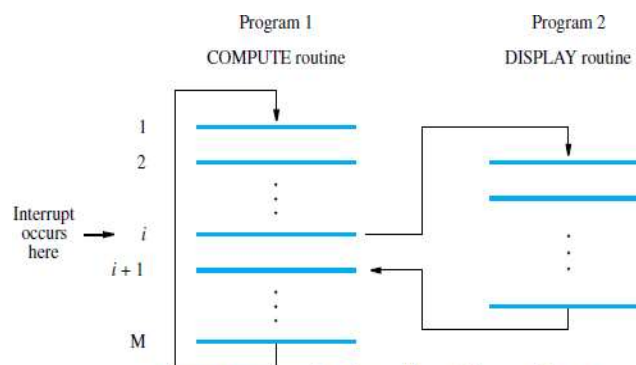

Figure 3.6 Transfer of control through the use of interrupts.
- For example, consider COMPUTE and PRINT routines (Figure 3.6).
Assume that an interrupt request arrives during execution of instruction i in Fig 3.6